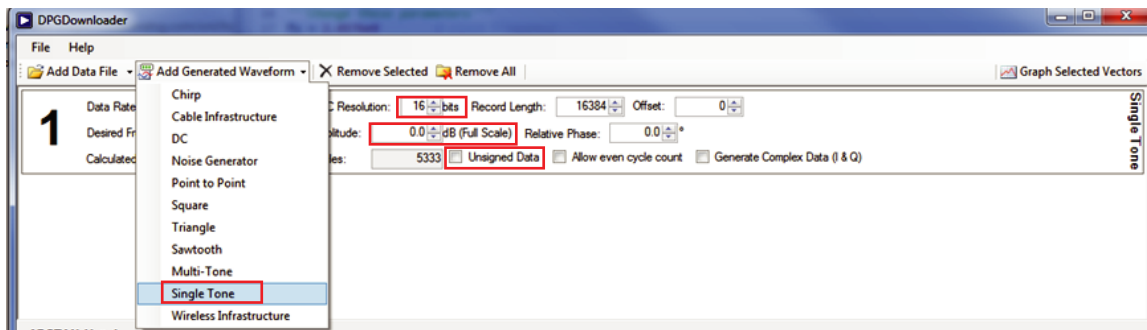

Figure 10. Choose Single Tone as the Vector Type
5. Select **Add Generated Waveform > Single Tone**, as shown in Figure 10. A single tone panel is added to the vector list.